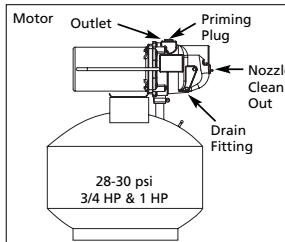

Figure 6 - Precharged Storage Tank
**SHALLOW WELL PUMP WITH PRECHARGED STORAGE TANK (FIGURE 6)**